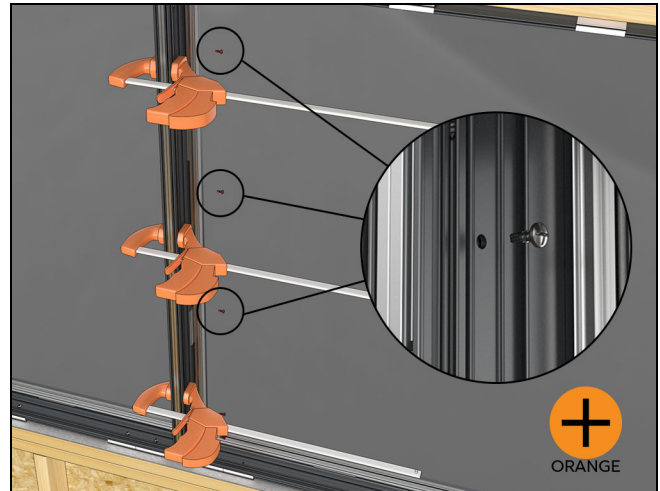

Figure 79
2. Fasten at each pre-drilled hole location with the #8 x 7/16" Phillips head self drilling screws provided. See Figure 79.